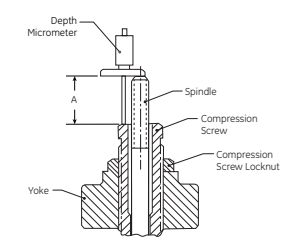

Figure 11: Yoke-Spindle Assembly
- 4. Refer to Figure 11, and measure and record Dimension A, as this information will be required to correctly re-assemble the valve.